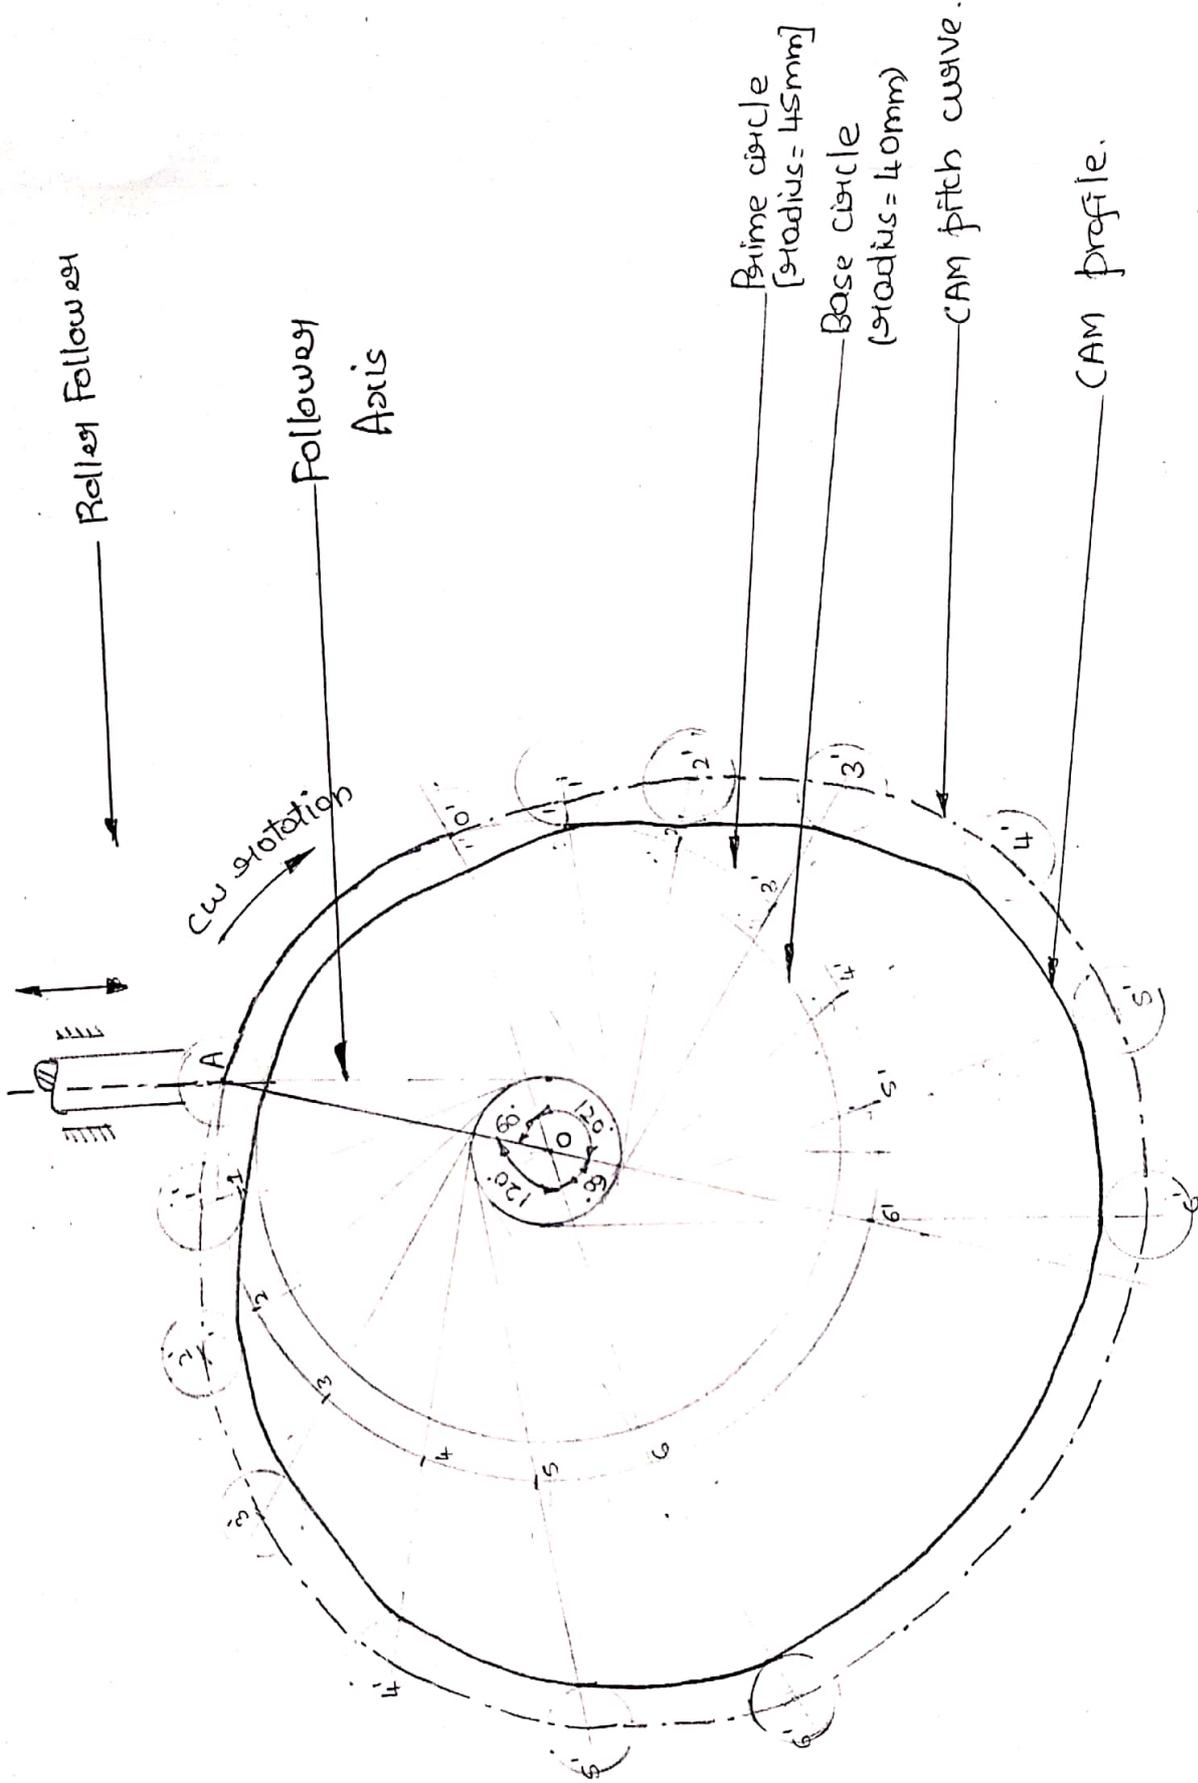

Figure: 4.4(b) Cam profile.
Cam profile construction. [Refer figure 4.4(a)].
- viii) From points 1, 2, 3, ..., 5, 6 for outward stroke and 6', 5', 4', ..., 2', 1' for return stroke draw tangents to the offset circle and extend these tangents beyond the prime circle as shown in figure 4.4(a).